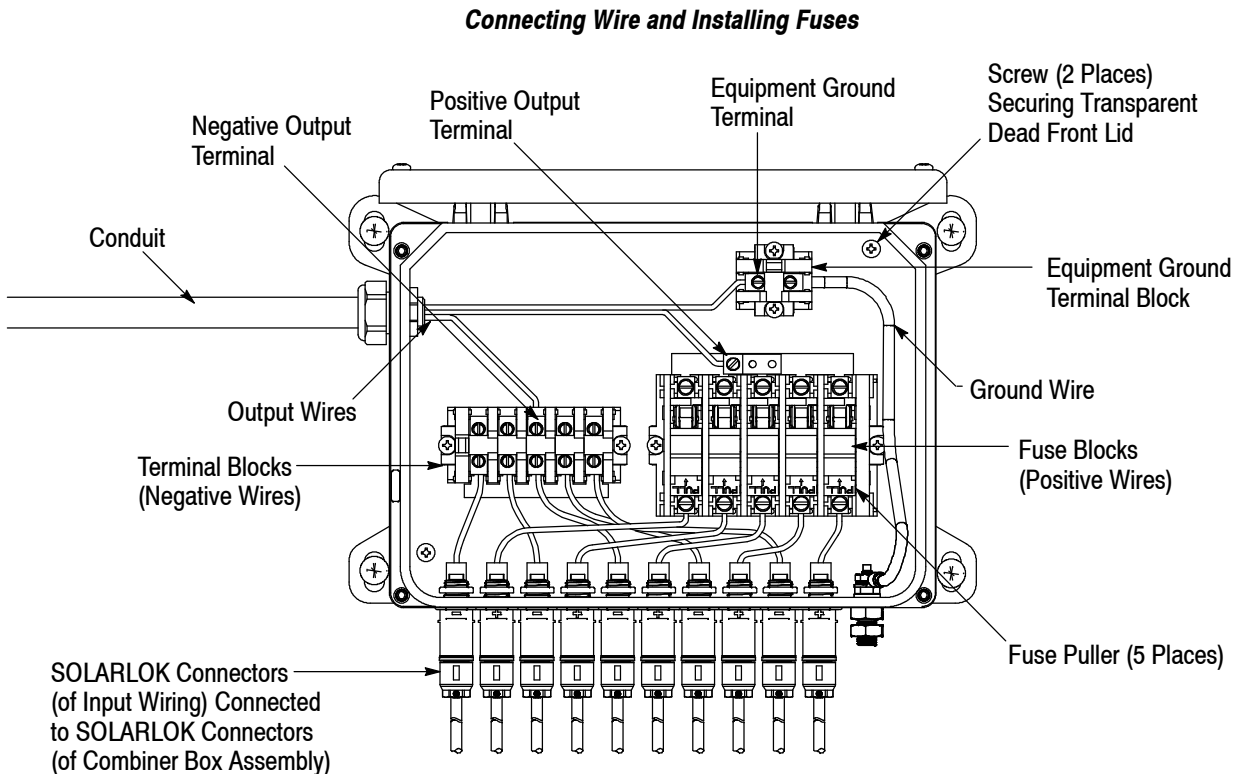

Figure 4
2. Using the screwdriver, remove the two screws securing the transparent dead front lid; then remove the transparent dead front lid. Refer to Figure 4.
terminal screw to the torque indicated in Section 1. See Figure 4.